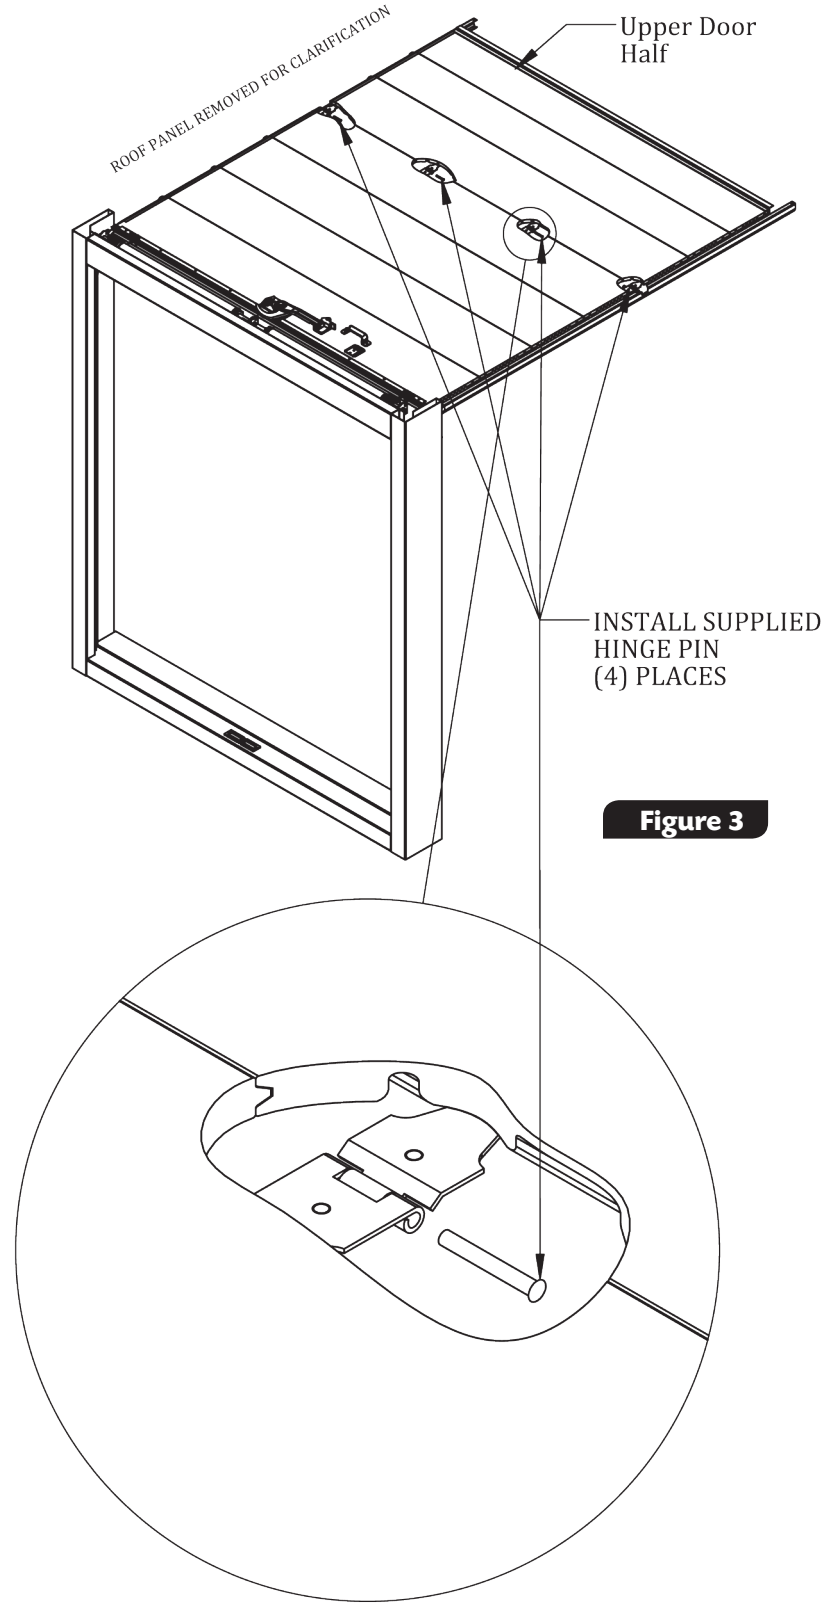

Figure 3
* There are various techniques for installing Rollup Door's. Since the door is shipped in two pieces, it can be installed one half at a time and joined together once in the track as shown in **Figure 2a** and **Figure 3**
Slide upper door half into track until meeting with the lower door half installed in **STEP 2**, then join the upper and lower door halves using the supplied hinge pins. **Figure 3.**